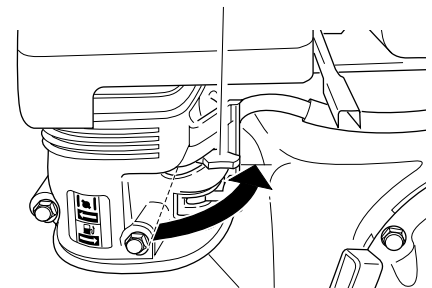

Figure 19 - Choke Lever Opened (Model PGH7500IE Shown)
5. As engine warms up, slowly move choke lever fully to the right (see Figure 19). This opens the choke. On Model PGH11000IE, the choke will automatically open.